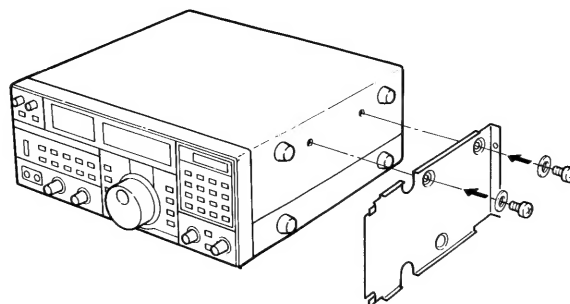

Fig. 2
2. Attach the TV-R7000 cover to the side of the IC-R7000 using the two supplied screws. Refer to Fig. 2.